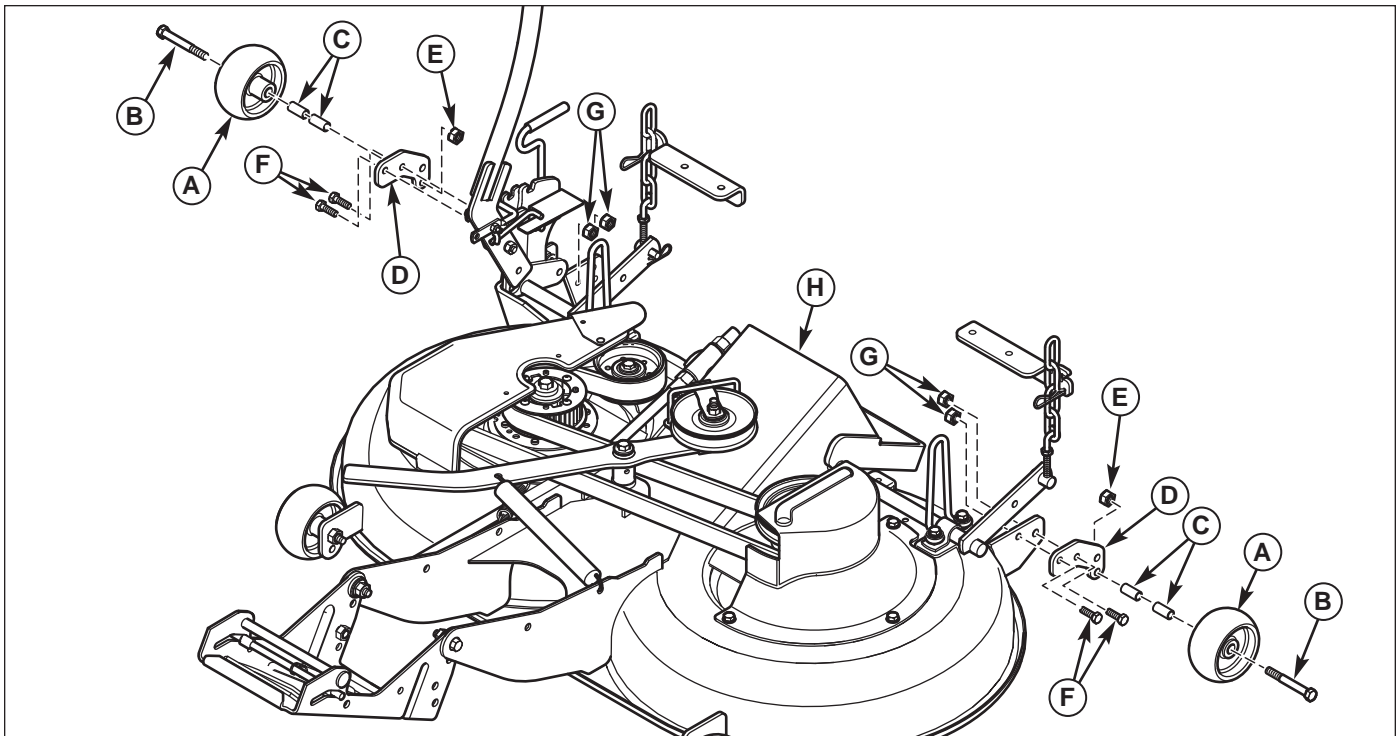

Figure 2. Anti-Scalp Gage Wheel Removal
2. Remove 5/16-18 x 1 cap screws (F, Figure 2), and 5/16-19 locknuts (G) securing gage wheels (A) and mounting brackets (D) to mower deck (H).